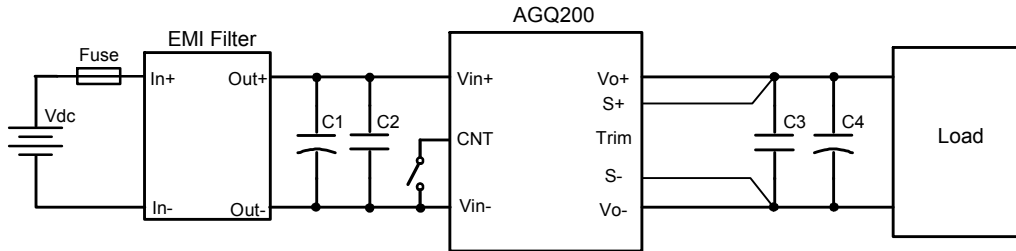

Figure 11 Typical application
Figure 5 Dynamic response for 25% load step (25% ~ 50% ~ 25%) and 0.1A/ $\mu$ s slew rate, (2ms/div), see Figure 11 for test configuration; CH1-output voltage (50mV/div); CH2-output current (10A/div)
Figure 6 Dynamic response for 25% load step (25% ~ 50% ~ 25%) and 1A/ $\mu$ s slew rate, (2ms/div), see Figure 11 for test configuration; CH1-output voltage (100mV/div); CH2-output current (10A/div)
- C1 ~ C4: See Figure 11